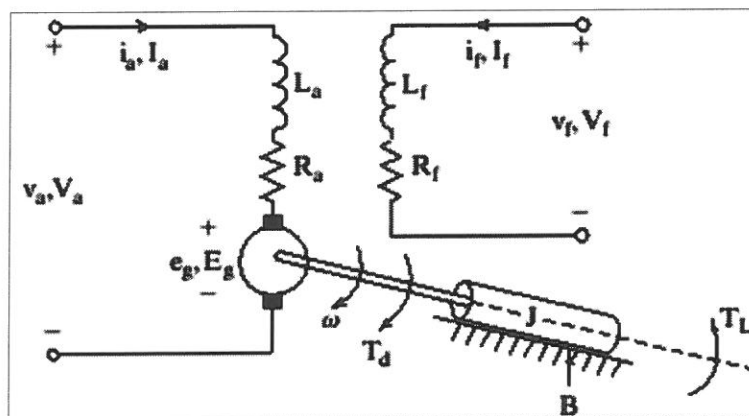

Figure Q.4(a) Separately excited DC motor
Q.4 (a) For a separately excited DC motor shown in the Figure Q.4(a), develop $\dot{X} = AX + BU$ and provide matrices A and B given $X = [i_a \quad \omega_m]^T$, $U = [V_a \quad T_L]^T$. Briefly explain the speed control methodology for both above and below the base speed for such a DC motor.